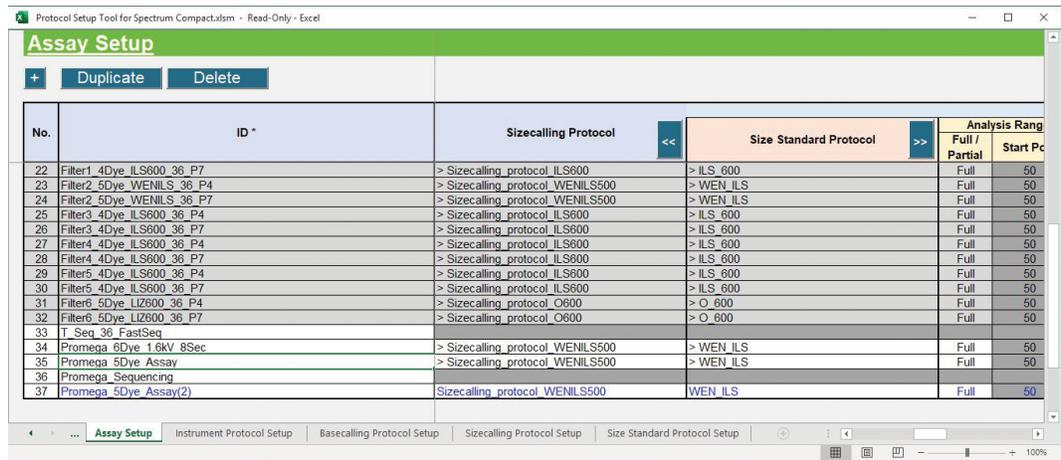

Figure 205. 'Assay Setup' worksheet with Double Arrow button for Size Standard Protocol.
- Selecting **Right Double Arrow** in the Sizecalling Protocol column header also enables **Right Double Arrow** in the Size Standard Protocol column header (Figure 205).